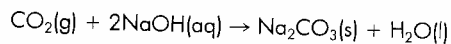

Figure 9.3 Weighing paper for the $\text{KHC}_8\text{H}_4\text{O}_4$ measurements.
b. Measure this mass (± 0.001 g) of $\text{KHC}_8\text{H}_4\text{O}_4$ on a tared piece of weighing paper (Figure 9.3) and transfer it to a clean, labeled Erlenmeyer flask. Similarly, prepare all three samples while you are occupying the balance. Dissolve the $\text{KHC}_8\text{H}_4\text{O}_4$ in about 50 mL of previously boiled, deionized water and add 2 drops of phenolphthalein.